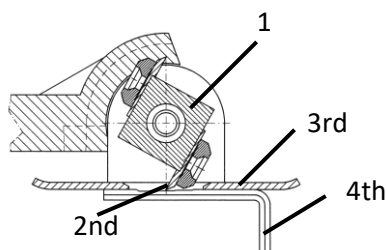

Figure 7: Set knives
- > Loosen the inside six-cantor of the knife with an inside six-edge key 6 mm.
- > Rotate the roller (1 – Fig.7) so that the knife protrudes maximum through the guide plate (3 – of Fig.7).
- > Place the inner six-edge key (4 – Fig.7) on the guide plate so that the indentation with the desired cut depth is under the knife.